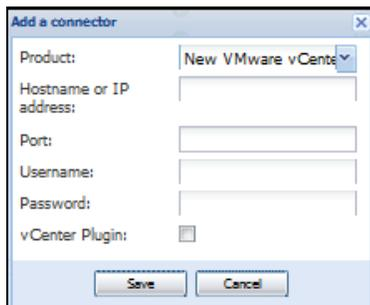

Figure 81. Add VMware vCenter
2. Add identification information for the selected connector (see Figure 81).